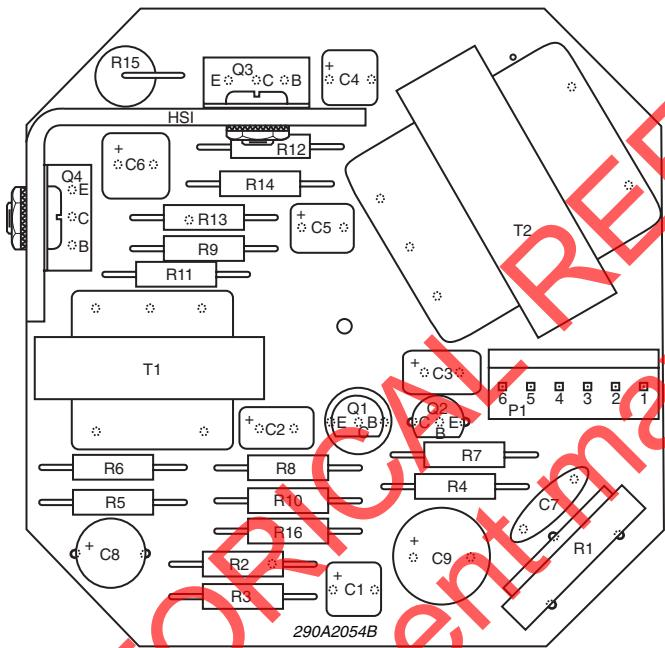

Figure 4. Electronic Megaphone Amplifier Parts Location.
- a. Remove screw which secures clip and dee (7).
- b. Remove the three Phillips head microphone housing screws. Lift microphone housing (17) away from microphone (16).
- c. Gently lift microphone (16) away from foam pad and place slightly to one side of assembly. Lift the foam pad partially away from the horn assembly until the truss head screw is exposed. Remove truss head screw.
- d. Place electronic megaphone on its side. Carefully rotate driver assembly (1) 1/8-turn to the left and pull driver assembly from horn as far as wires from microphone and handle will permit.
4. Hold switch button depressed. With a voltmeter, check for 12VDC between P1 pins 2 and 4 on the amplifier PC board (4) (see figure 4). If correct voltage is not obtained, remove handle and check switch and all connections in handle.